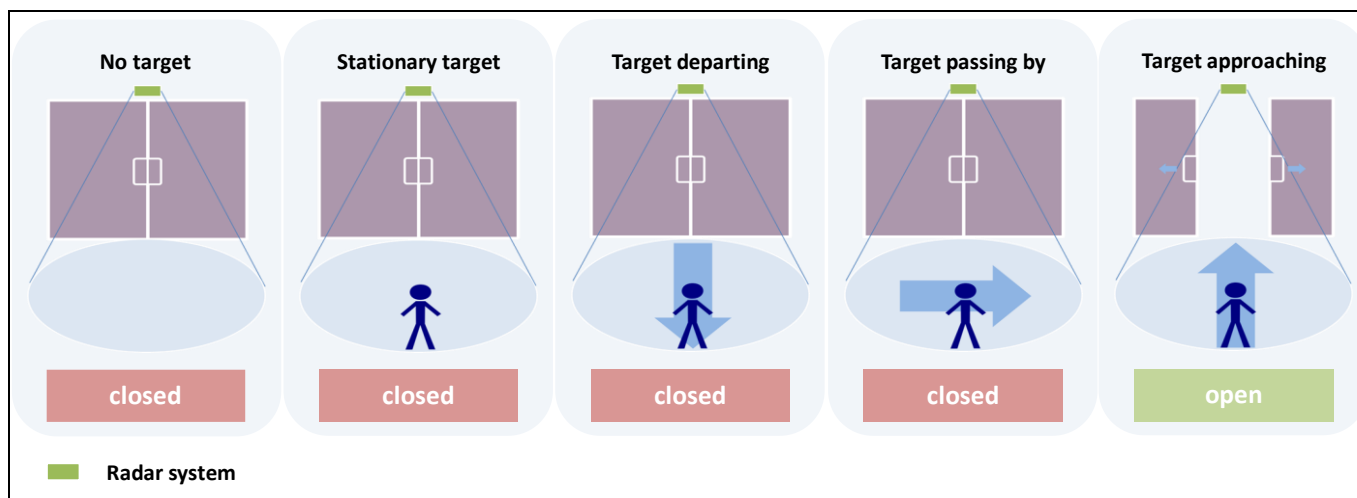

Figure 25 Smart door opener – use-case visualization
- smart door openers based on direction of movement (Figure 25)